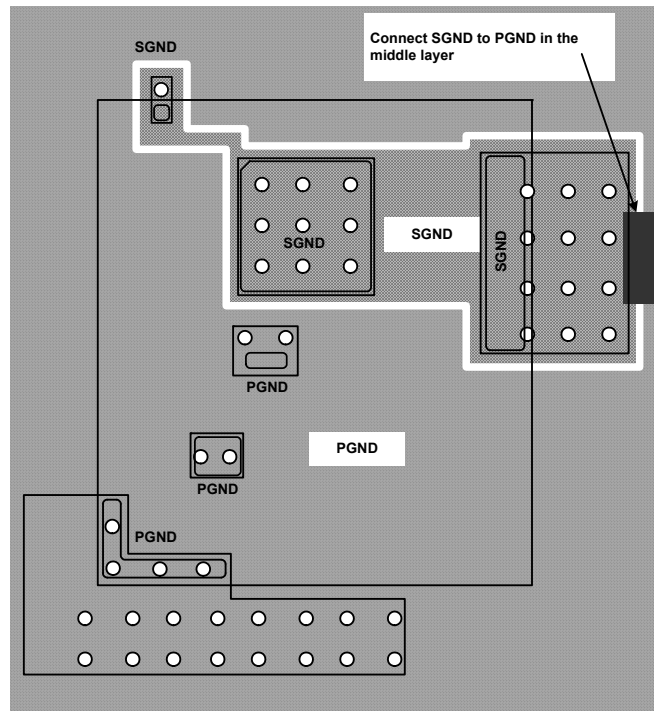

Figure 20. Recommended Layout - Connect SGND to PGND in the Middle PCB Layer After Establishing Separate SGND and PGND
- Establish separate SGND and PGND planes, then connect SGND to the PGND plane as shown in Figure 20 on page 24 in the middle layer. For making connections between SGND/PGND on the top layer and other layers, use multiple vias for each pin to connect to the inner SGND/PGND layer. Do not connect SGND directly to PGND on a top layer. Connecting SGND directly to PGND without establishing an SGND plane will bypass the decoupling capacitor at internal reference supplies, making the controller susceptible to noise.